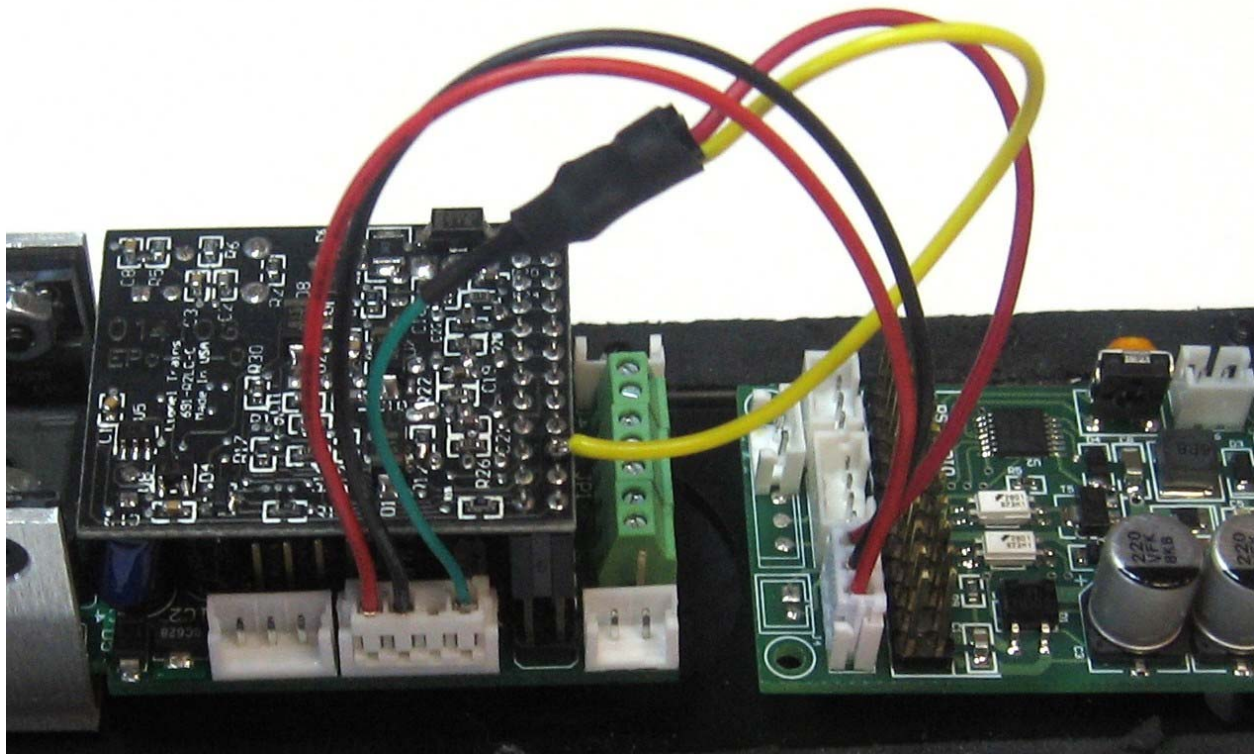

Figure 5 – Buffer cable installation complete
2. While referring to Figure 5, plug in the buffer cable assembly 3 position connector at the designated point on the Railsounds commander circuit board. Next, plug in the 4 position connector at J3 on the Cruise Commander circuit board.